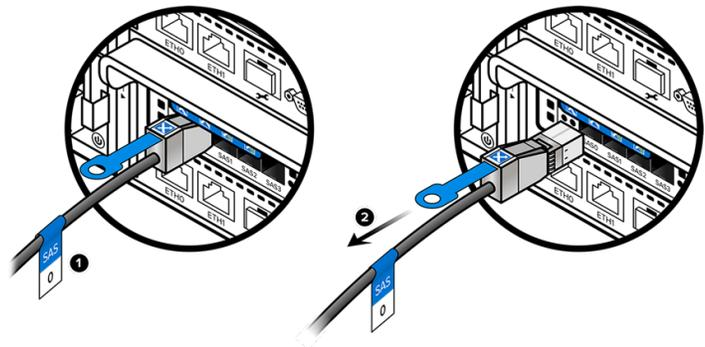

Figure 7-7. Disconnecting a SAS Cable
1. Attach a temporary label (included in your replacement controller package) to each SAS cable you disconnect (**SAS0** through **SAS3**), to indicate the number and type of the corresponding port. See Figure 7-7.